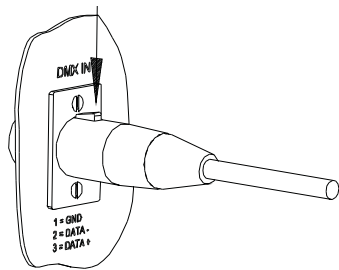

Figure 3
2. To disconnect the female end of cable, press down the release button on the plug (Figure 3) and pull the plug out of the receptacle (Figure 4). Pressure should be applied to the plug, not the cables.